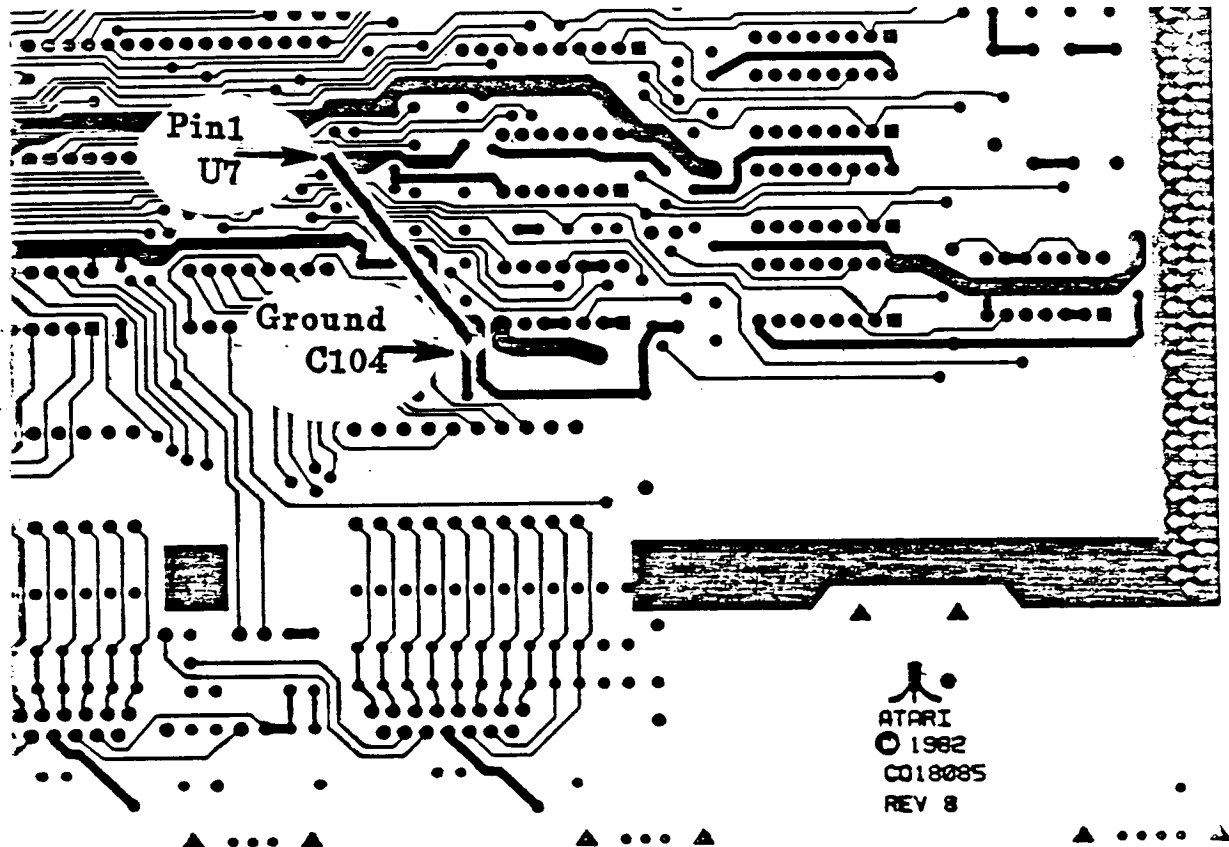

Figure 1. Sleeve Buss Wire Placement
- 6) On the solder side of the PCB solder one end of the sleeved buss wire to Pin 1 of U7. See Figure 1.
- 7) Solder the other end of the sleeved wire to the ground lead of C104. See Figure 1.